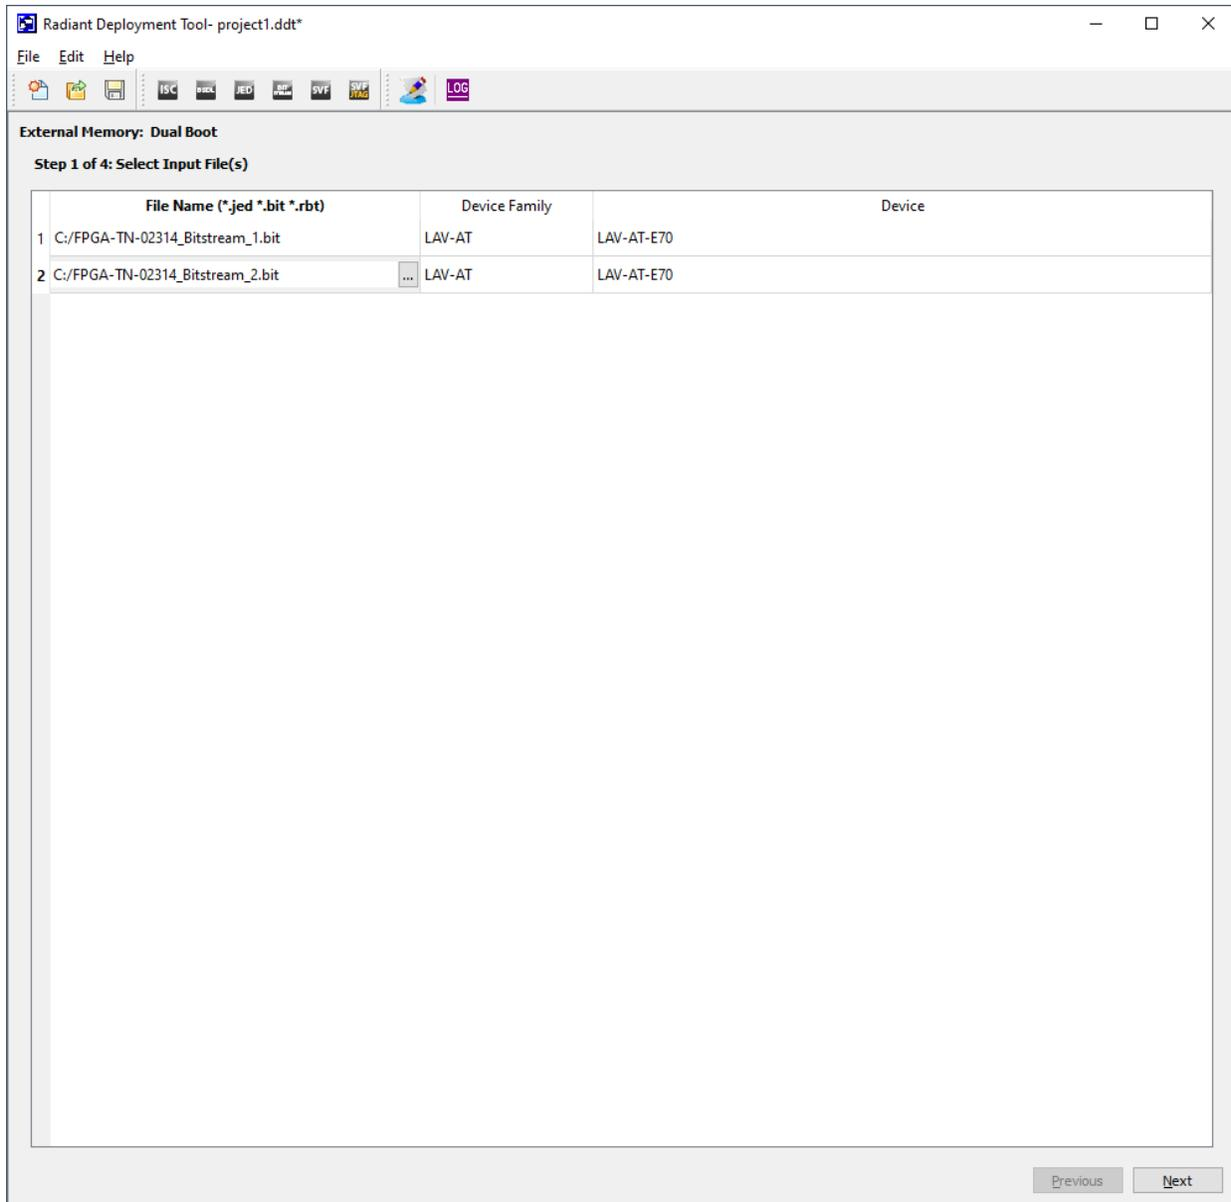
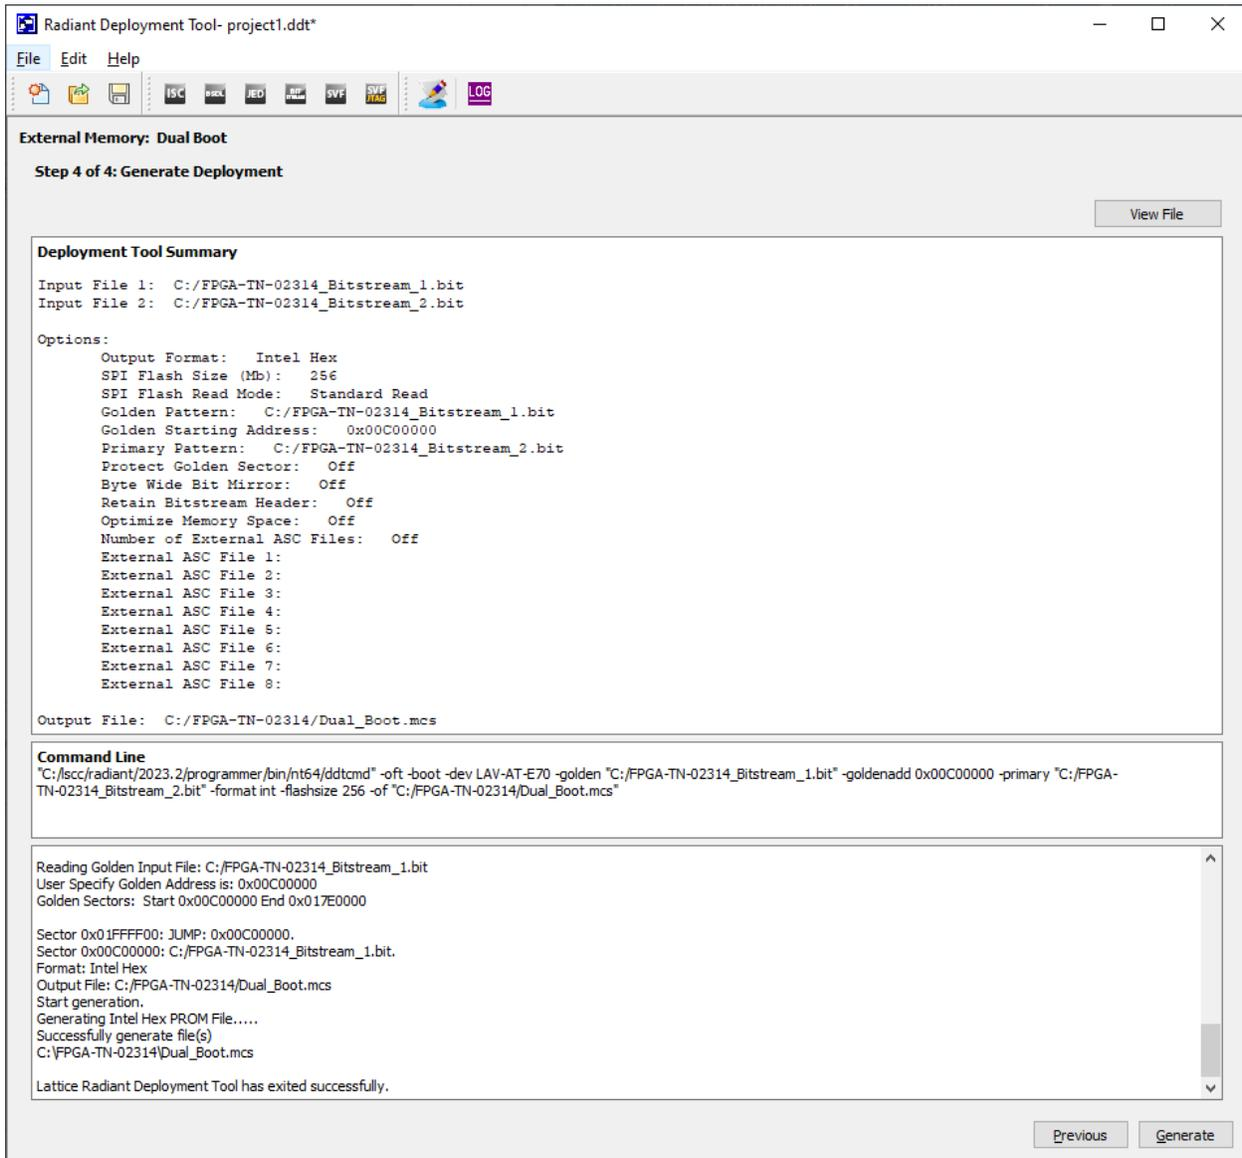

Figure 4.2. Select Input Files Window
Figure 4.5. Generate Deployment Window
Step 1 of 4: Select Input File(s) window (Figure 4.2)
Step 4 of 4: Generate Deployment window (Figure 4.5)
Creating a PROM File	Updated <a href="#">Figure 4.2. Select Input Files Window</a> and <a href="#">Figure 4.5. Generate Deployment Window</a> reflecting the Avant product name change in the software GUI.